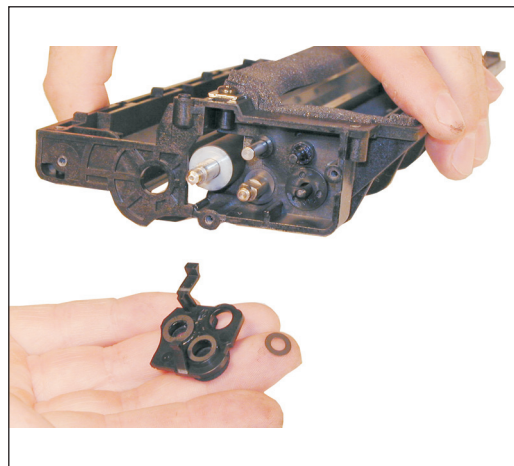

Figure 19
14) Gently pry out the roller plate from the cartridge. The foam seal, and plastic flat washer will come out with it. Be careful not to damage the foam seal, or loose the flat washer. See Figure 19